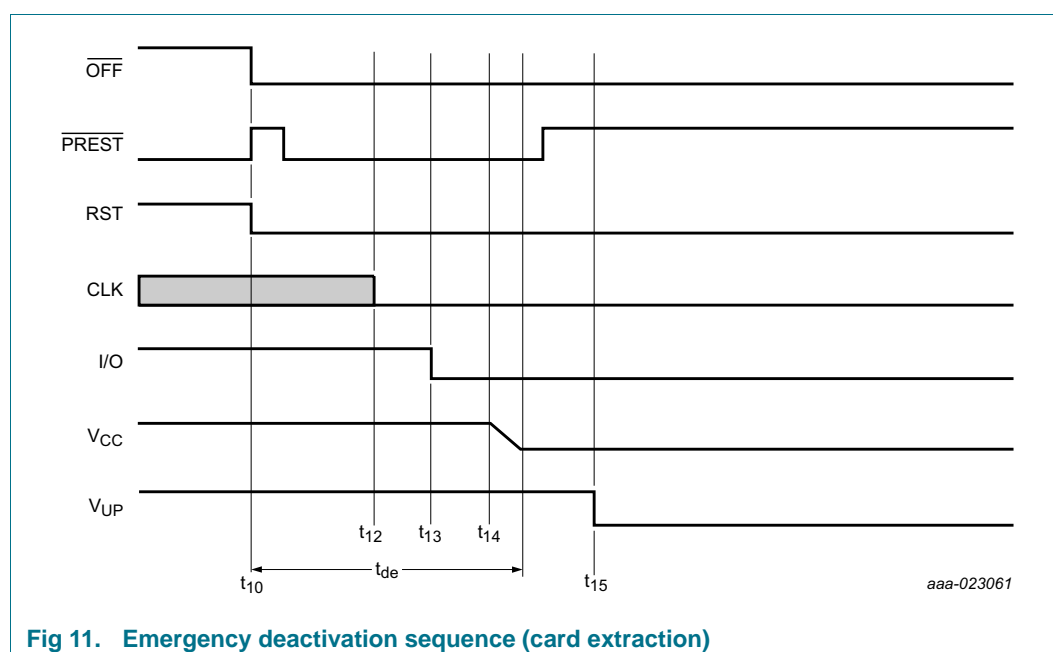

Fig 11. Emergency deactivation sequence (card extraction)
- **$\overline{\text{CMDVCC}}$ LOW within a card session.** Output $\overline{\text{OFF}}$ goes LOW when a fault condition is detected. As soon as this occurs, an emergency deactivation is performed automatically (see Figure 11). When the system controller resets $\overline{\text{CMDVCC}}$ to HIGH it may sense the $\overline{\text{OFF}}$ level again after completing the deactivation sequence. This distinguishes between a hardware problem or a card extraction ($\overline{\text{OFF}}$ goes HIGH again if a card is present).